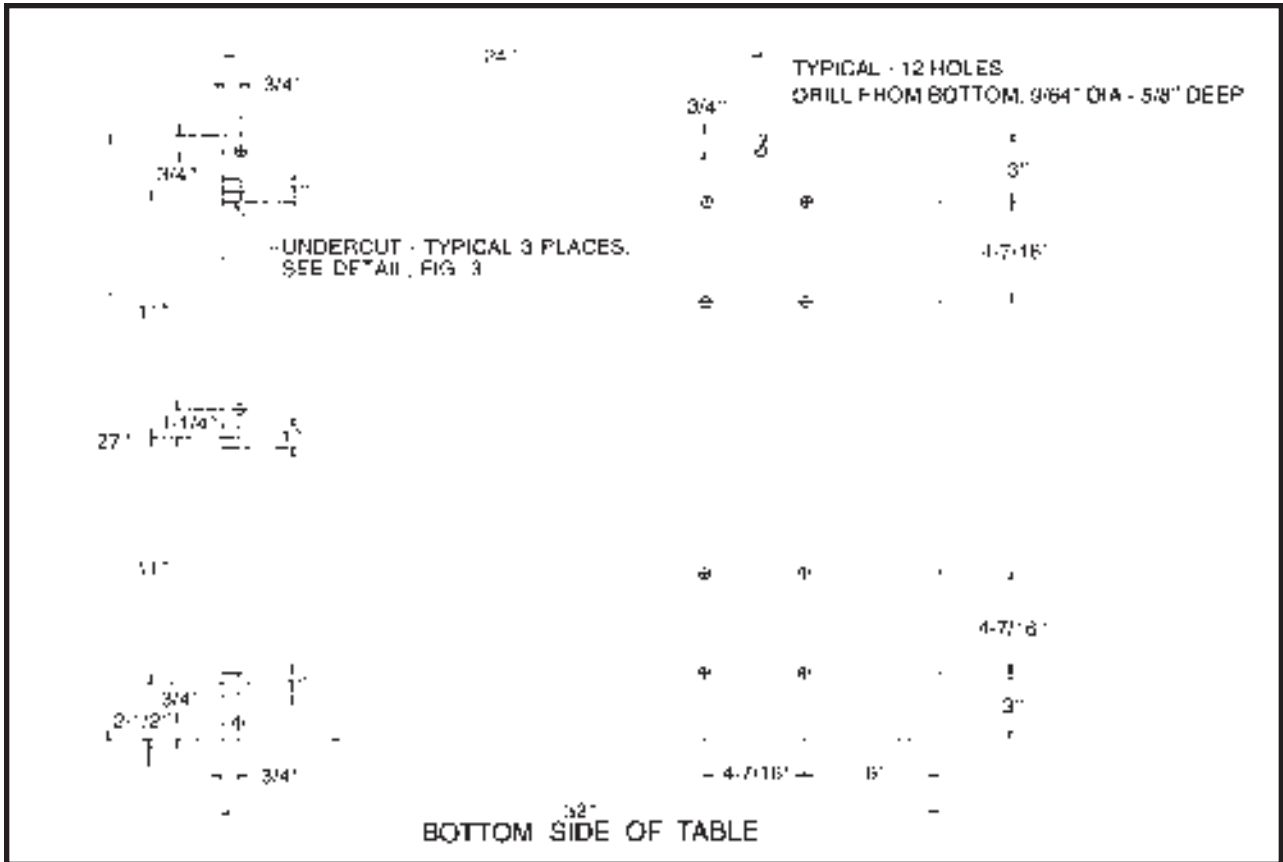
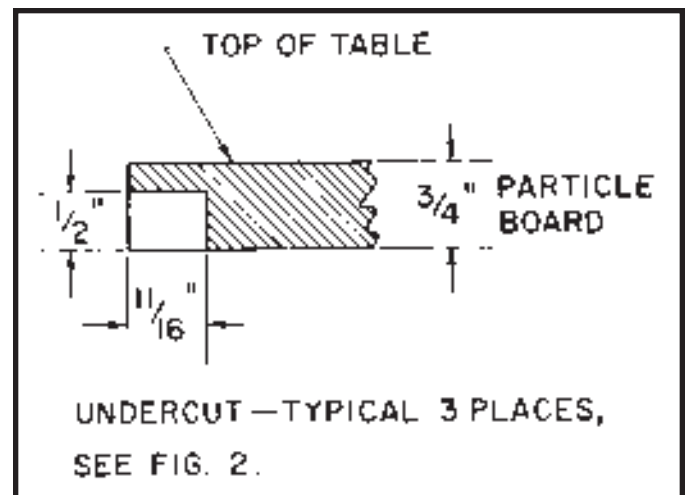

Fig. 2
Fig. 3
1. A 32 long by 27 wide table should be constructed using 3/4 inch material by following the dimensions shown in Fig. 2.
2. Twelve 9/64 inch diameter holes must be drilled 5/8 inch deep in the bottom side of the table. These twelve hole locations are shown in Fig. 2.
3. Three undercuts must also be made on the bottom left side of the table. The location of these undercuts are shown in Fig. 2. The size of the undercuts are shown in detail in Fig. 3. NOTE: On saws other than Delta, it may be necessary to change the location of the three undercuts in the table depending on the position of the table adapter plate mounting screws. Refer to section ASSEMBLING TABLE ADAPTER PLATE TO SAW TABLE.